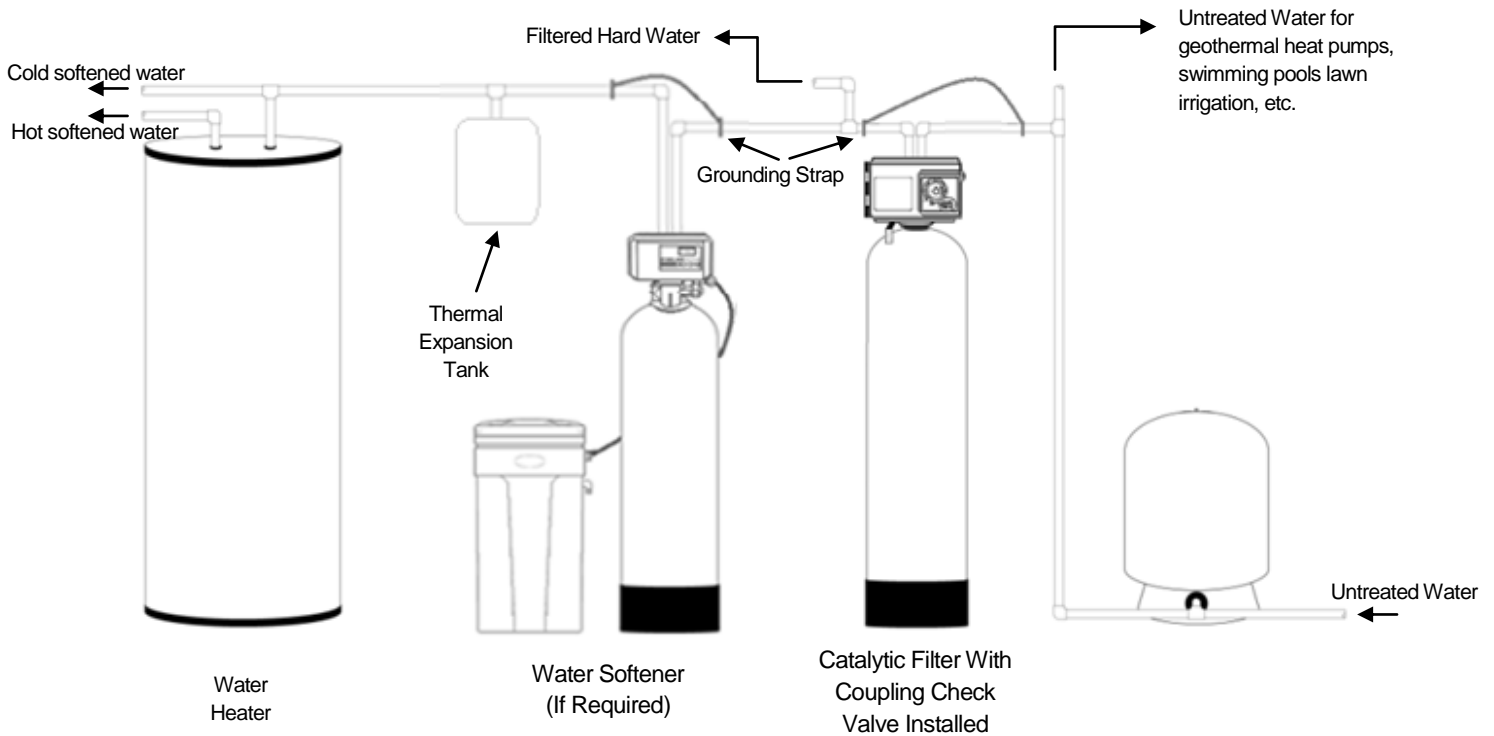

FIGURE 1: Typical Installation
7. Appliances requiring extended periods of continuous or high flow water use (i.e. geothermal heat pumps, swimming pools, lawn irrigation, outside hose bibs, etc.) should bypass the filter and a spring check valve should be installed on the filter inlet to prevent backflow of air from the filter tank (see installation diagram Fig. 1 on page 4).